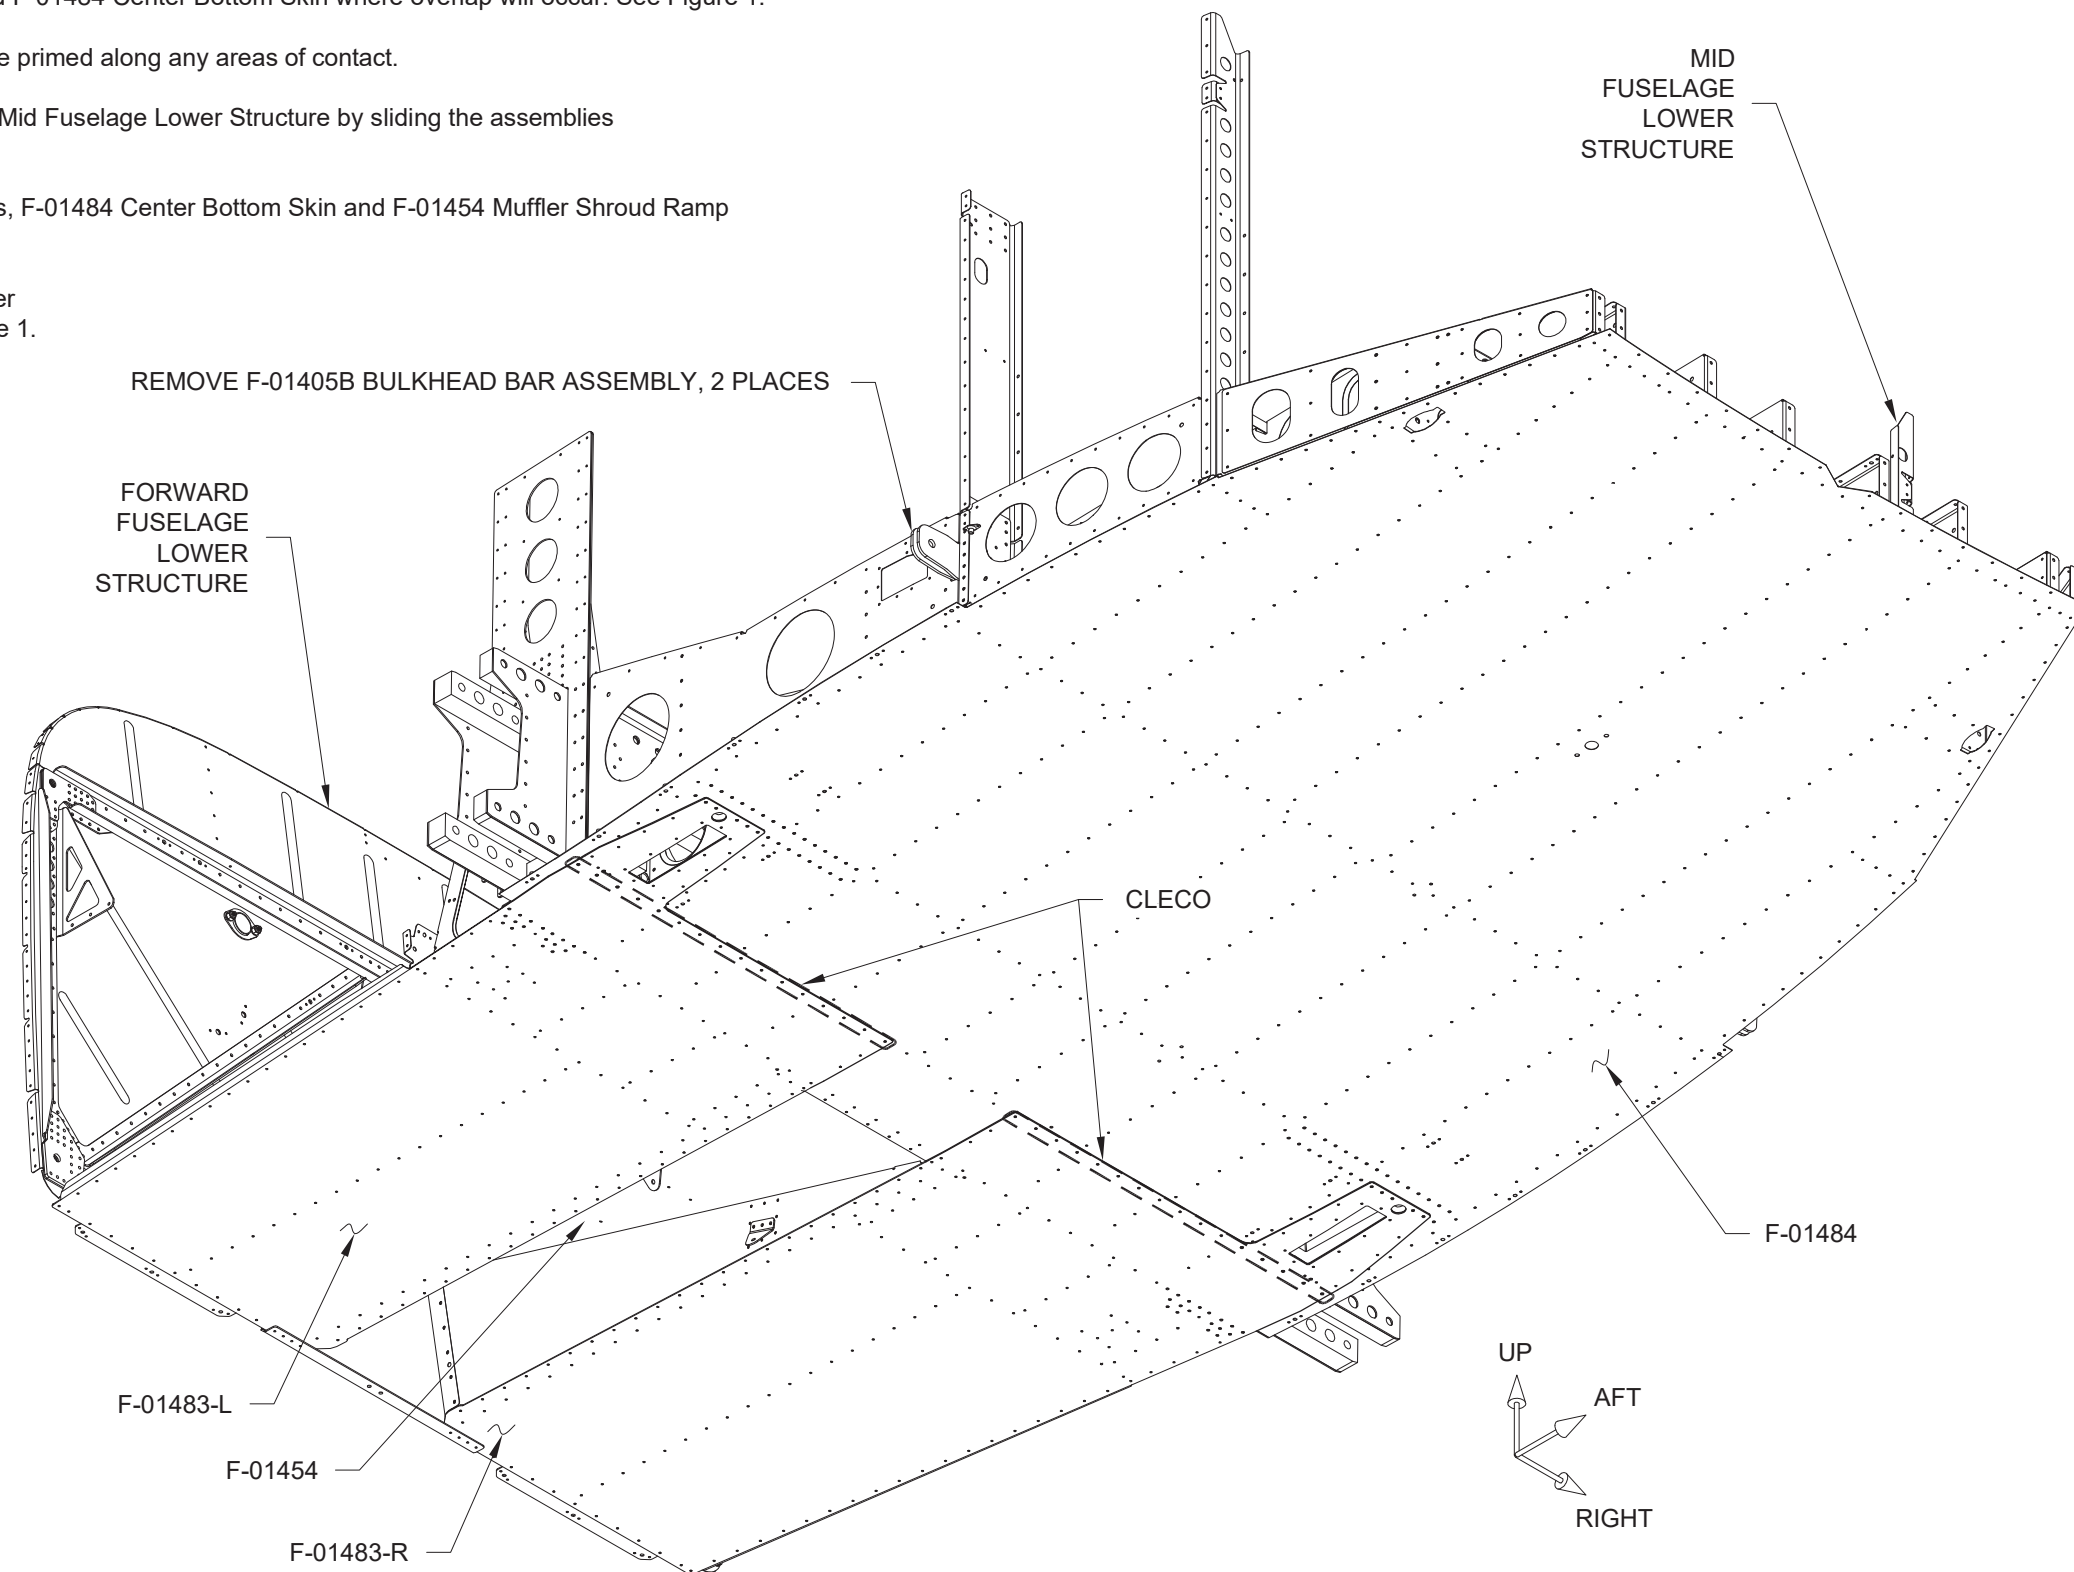

FIGURE 1: FUSELAGE
Step 1: Prime the F-01483-L & -R Forward Bottom Skins and F-01484 Center Bottom Skin where overlap will occur. See Figure 1.
Overlap and cleco the F-01483-L & -R Forward Bottom Skins, F-01484 Center Bottom Skin and F-01454 Muffler Shroud Ramp as shown in Figure 1.
Step 3: Mark the F-01405B Bulkhead Bar Assemblies for later reinstallation and remove them from the fuselage. See Figure 1.